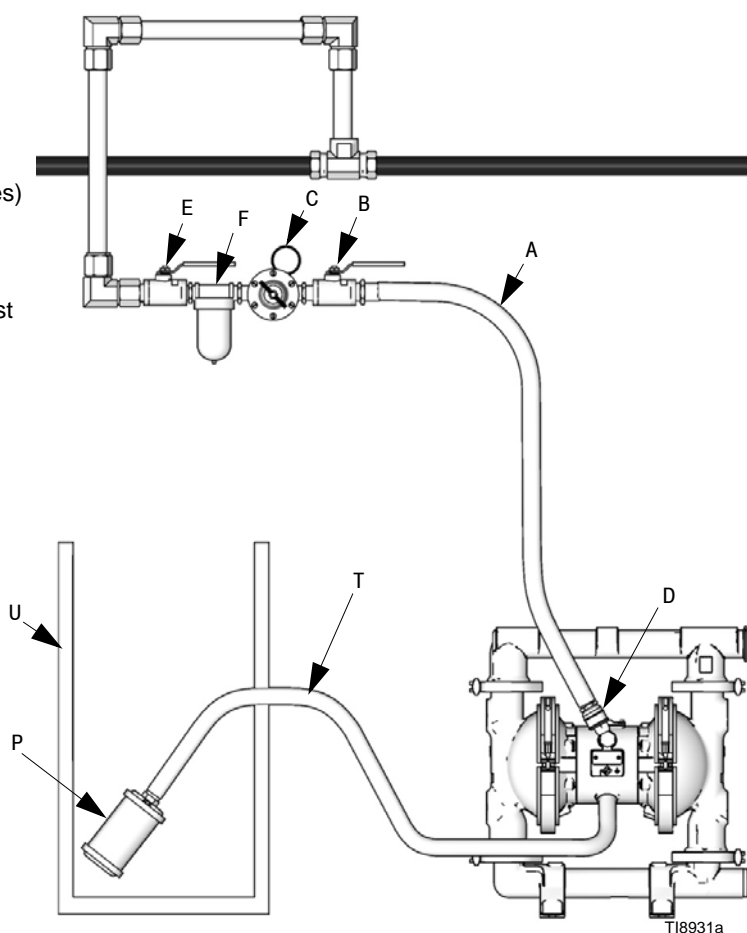

FIG. 4 Venting Exhaust Air
Diaphragm failure will cause the fluid being pumped to exhaust with the air. Place an appropriate container at the end of the air exhaust line to catch the fluid. See FIG. 4.
1. Remove the muffler (P) from the pump air exhaust port.
2. Install a grounded air exhaust hose (T) and connect the muffler (P) to the other end of the hose. The minimum size for the air exhaust hose is 3/4 in. (19 mm) ID. If a hose longer than 15 ft (4.57 m) is required, use a larger diameter hose. Avoid sharp bends or kinks in the hose.
3. Place a container (U) at the end of the air exhaust line to catch fluid in case a diaphragm ruptures. See FIG. 4.